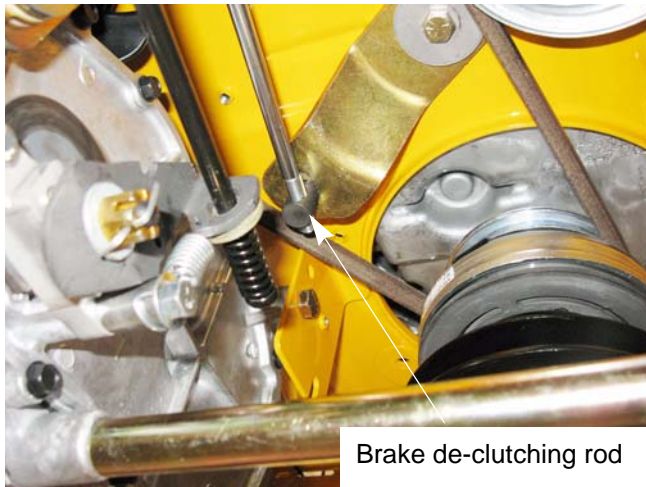

Figure 4.20
10. Disconnect the brake de-clutching rod from the idler pulley bracket. See Figure 4.20.